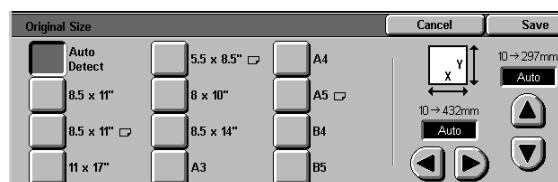

Figure 12: Original Size screen
- 7 Touch the Added Features tab and touch the Original Size button to display the Original Size screen, Figure 12.